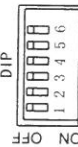

Fig. 3
- (1) DIP switches: SW1-SW3 for programs selection, please see Attached Table (1=ON, 0=OFF). SW4 and SW5 are unused; SW6 for remote controller; (see fig. 3)
- (2) Calculation of DIP address code:
- (3) Using of wireless remote controller: